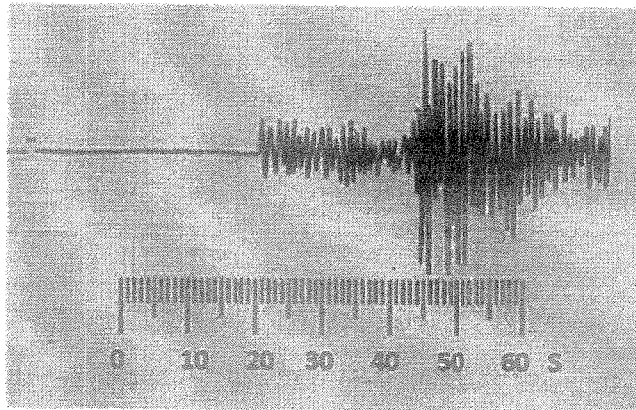
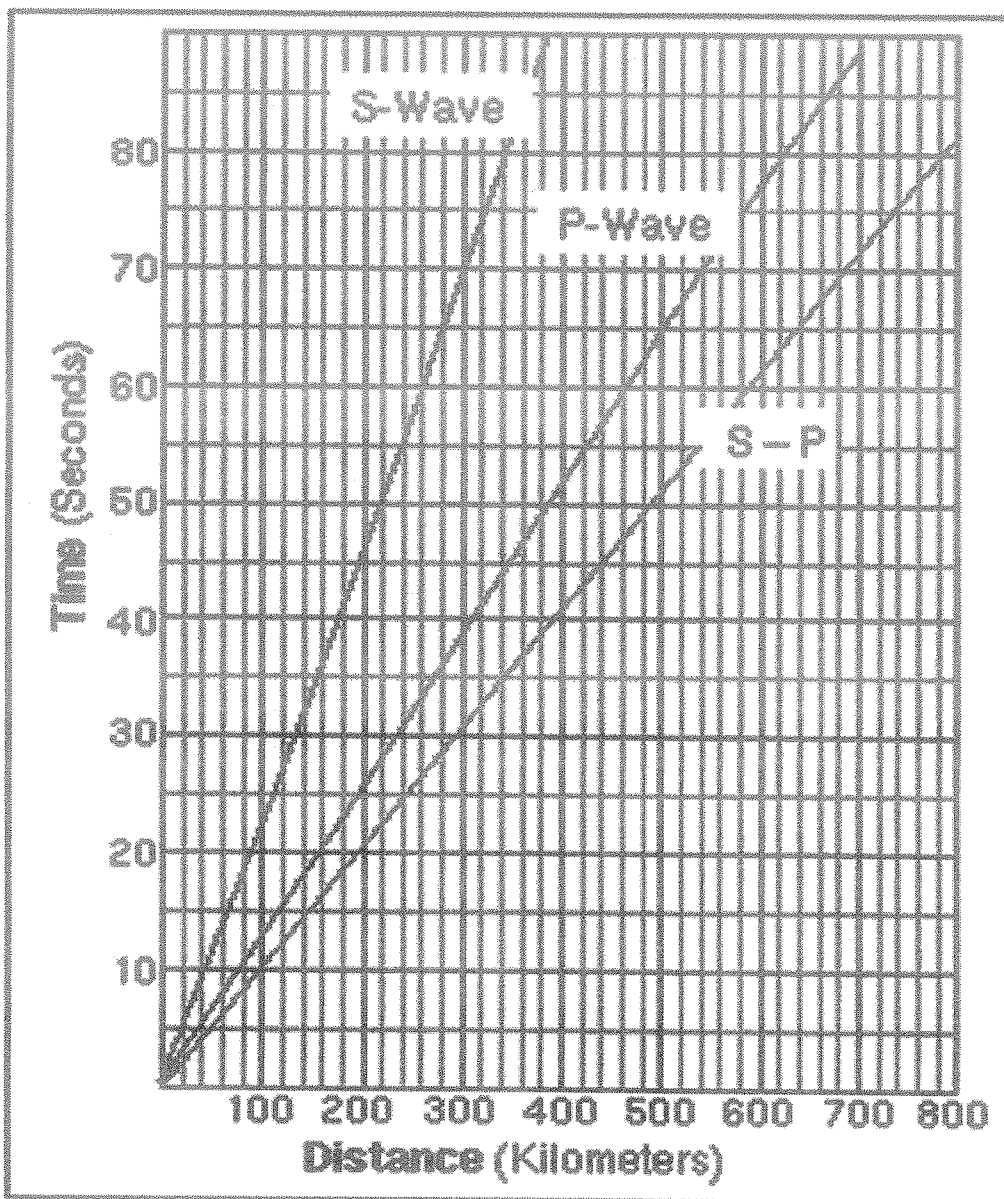

Figure Q2.1 Seismograph data of the Earthquake (scale is given in seconds)
Figure Q2.2 Time-Distance curve for earthquake waves
- b) The seismographic data of an earthquake at a particular location is shown in Figure Q2.1. The time-distance curve for earthquake waves is depicted in Figure Q2.2. Calculate the distance to the epicenter of the earthquake. Briefly explain would you be able to exactly locate the epicenter from the calculated distance? [3.0 Marks]